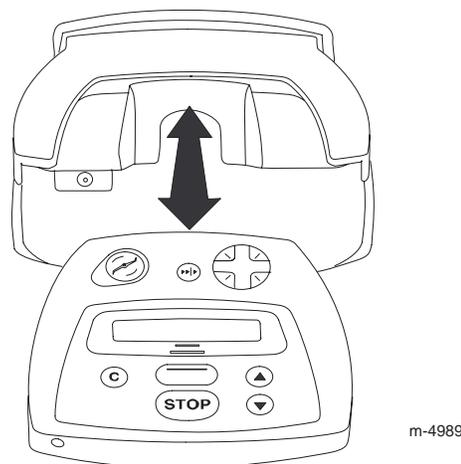

Figure 20
1. Place your finger on the controller indentation and tilt the controller drawer up (Fig. 20).
Insert the controller in the drawer (Fig. 20) and close the drawer until it is flush with the top of the lawn mower surface. Once the controller is in place, the lawn mower switches from manual to automatic mode.